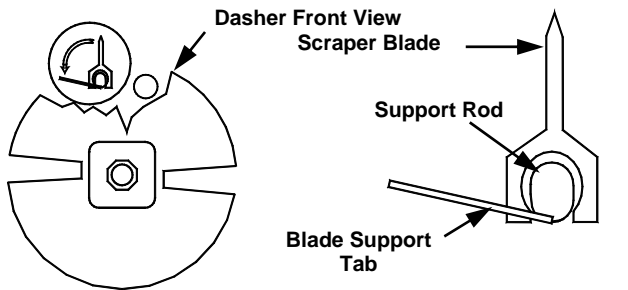

Fig. 14
- f. Install the scraper blades onto the dasher assembly by holding the blades perpendicular to the tabs (Fig. 14) and then snapping them over the flat area of the support rod. Then rotate the blades downward in a counterclockwise direction as viewed from the front of the dasher. **BE CERTAIN THAT THE SCRAPER BLADES REST UPON THE DASHER TABS.**